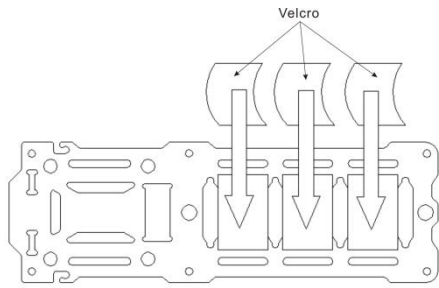
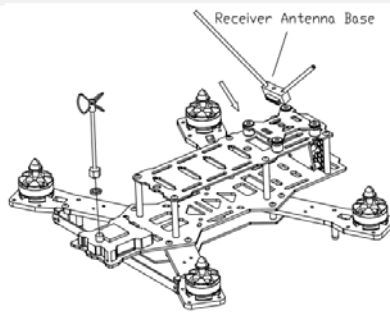
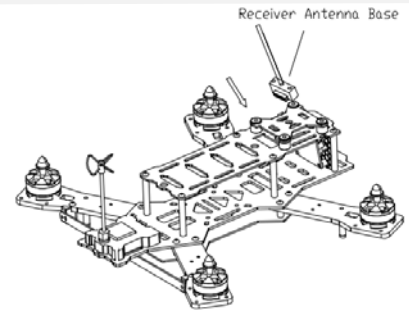
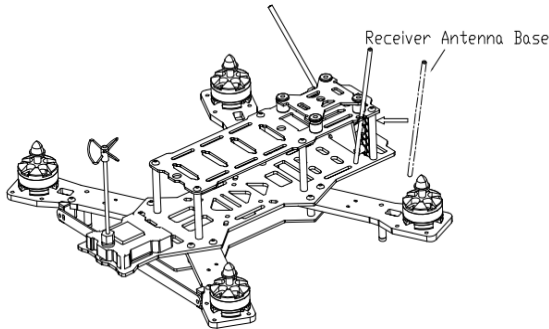

Fig 1
Fig 2
Fig 3
Fig 4
(1) Place velcro to frame (about center of gravity of the frame, depend on battery size, battery can be placed inside the copter frame or above the copter frame) See Fig 1.
(2) Place receiver behind the camera on the middle board, stay away from the video transmission antenna.
(3) Place receiver antenna into receiver antenna base, and install receiver antenna base to the frame. (There are 2 ways to install the receiver antenna, customer can choose the best way depend on receiver size) See Fig2, Fig3 and Fig4.
(4) Please install video transmitter antenna to video transmitter. See Fig 2.
(5) Please install propeller to motors (Beware of the CW and CCW propellers) M1 and M4 are CCW propellers, M2 and M3 are CW propellers.
(6) Please remove camera cover and turn on monitor and/or power goggle.
(7) Connect battery to power copter, and switch the video transmitter power to ON and check video feed from monitor and/or goggle.
(8) Please adjust camera lens focus to best image quality.